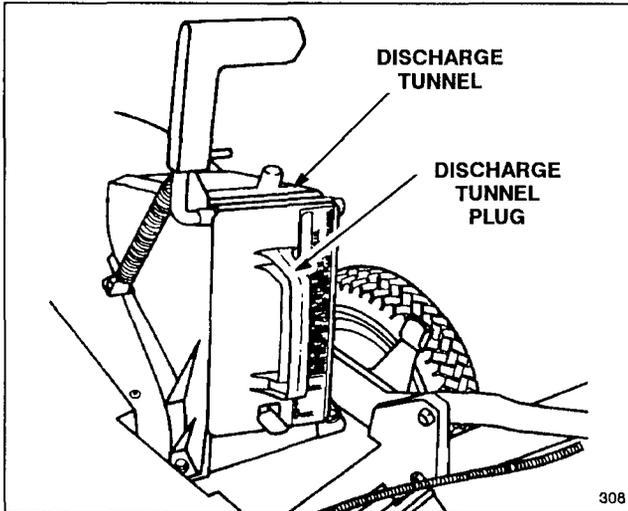

Figure 30
**1. Rear Bagging Kit (Model 59174 for self-propelled models, Model 59179 for hand push models)**—Install discharge tunnel and rear mounting grass bag to convert Recycler® II Super Pro® mower to a rear bagging mower (Fig. 30). Includes discharge tunnel plug.